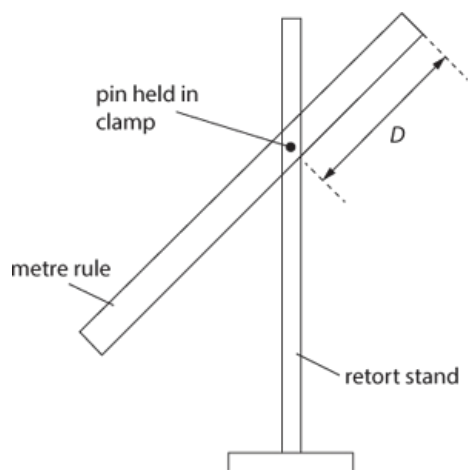

Figure 11.1: Pin through a metre rule (40 cm from one end). Pin attached to a clamp on retort stand.
- 1 Set up the apparatus as shown in Figure 11.1, with the pin clamped to the stand, using the hole drilled 40 cm from the end of the rule. Make sure that the metre rule swings freely. The rule may hang over the end of the bench, if necessary.